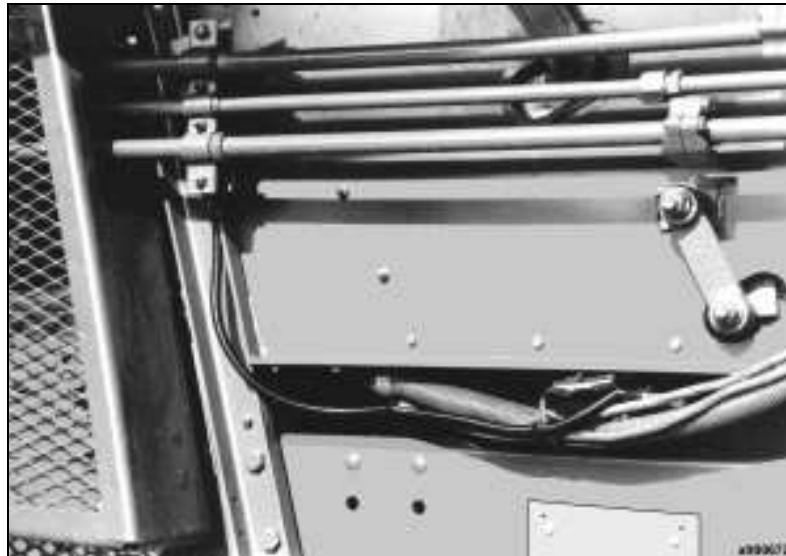

Figure 5. Elevator speed connection on left side of combine
1. Locate elevator speed sensor connection at left end of clean grain cross auger as shown in Figure 5.
3. Follow existing wiring harness forward and then up channel-iron frame member, as shown in Figure 5.